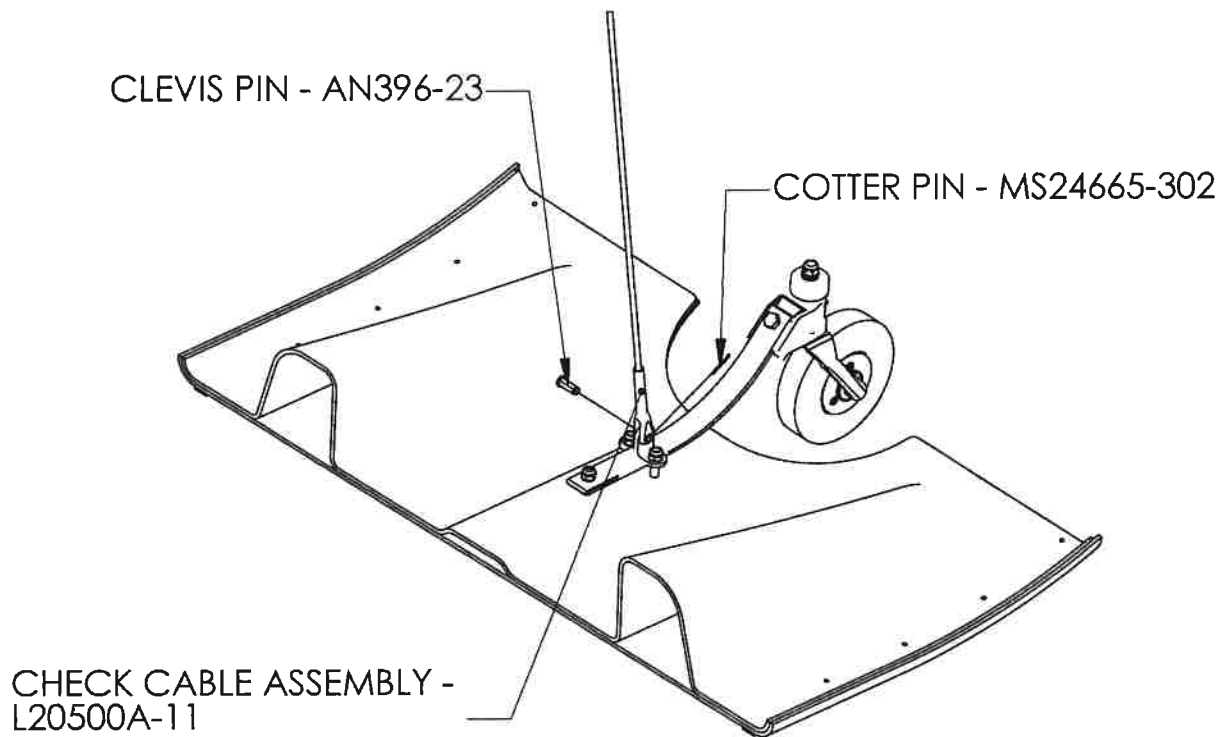

Figure 5.4
51. Align Check Cable to Ski Angle Bracket (L20500A-11-1A, L20500A-11-1B), Insert Clevis Pin (AN396-23) and Cotter pin (MS24665-302). *See Figure 5.4*